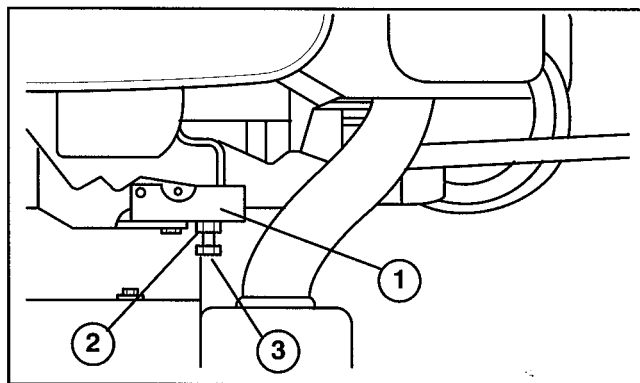

Figure 51
A. Loosen jam nut on governor arm adjusting screw (Fig. 51).